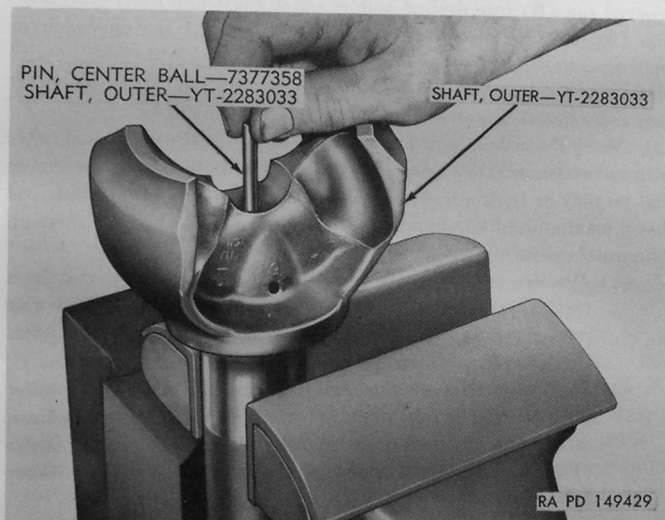

Figure 116. Universal joint center ball pin installation.
c. Position Center Ball.—Place center ball (E) on the seat at the center of the inner shaft.
d. Install Center Ball Pin.—Insert center ball pin (D) into hole in outer shaft (fig. 116). Check pin several times to be sure it slides freely and does not stick.
e. Position Outer Shaft.—Place outer shaft (A) over inner shaft (F) with outer shaft resting on center ball (E). Be sure center ball pin (E) does not drop out of outer shaft during this operation.
f. Install Three Outer Balls.—Bend outer shaft at joint to an extreme angle as necessary to slip three of the outer balls (C) into the